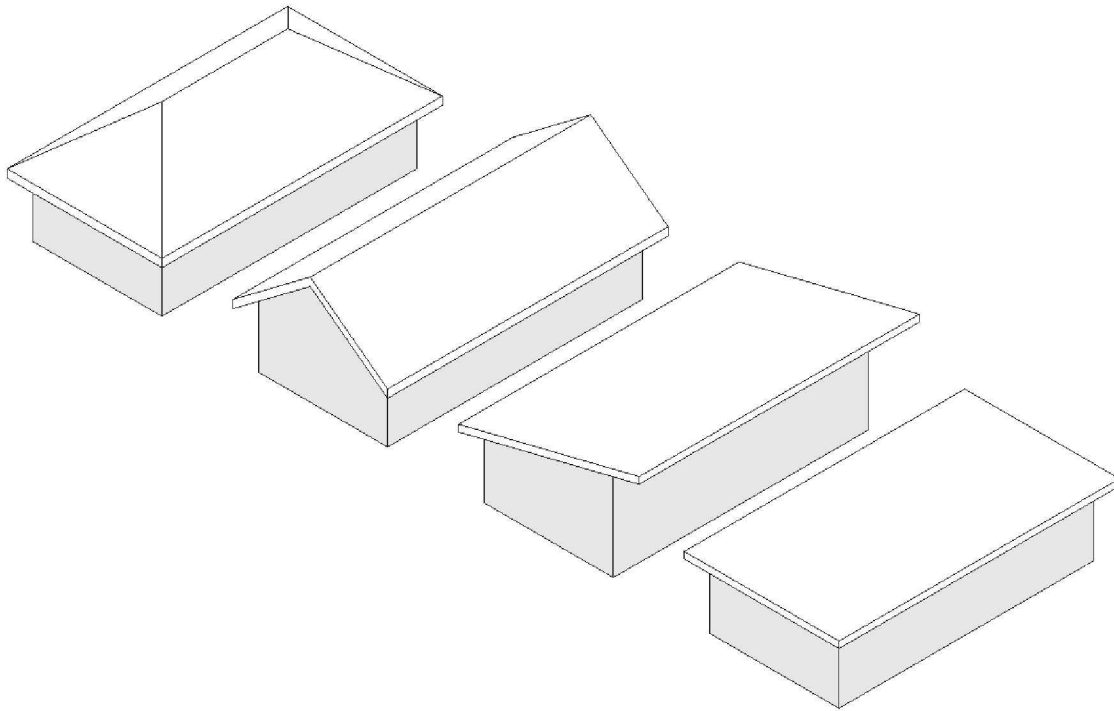

FIGURE 6-3.14 Default 3D view – flat roof
55. Also, take a look at the **Default 3D view** (Figure 6-3.14).